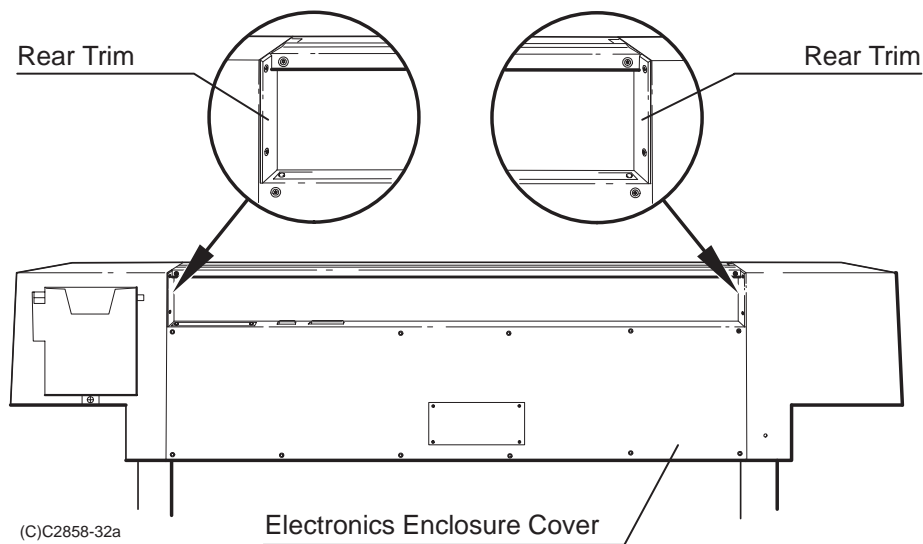

Figure 6-3.
3. Using a TORX T-15 screwdriver, remove the rear sideplate trim pieces and electronics enclosure cover shown in Figure 6-3. The C2858A has 10 cover screws and the C2859A has 12 cover screws. The trim pieces have two screws each.